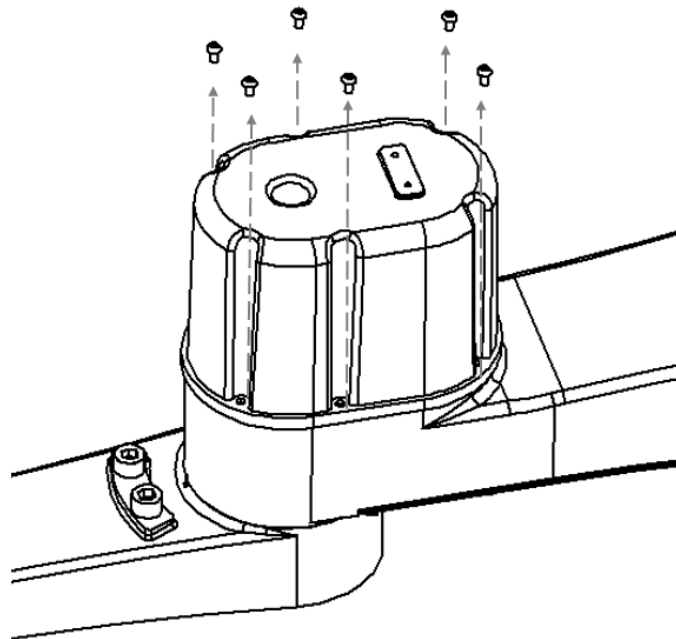

Figure 4-3 Lift the cover
Step 2 Use 2.5 mm Allen wrench to remove the fastening screws from the robot cover 2, and directly take out the robot cover 2, as shown in Figure 4-3.